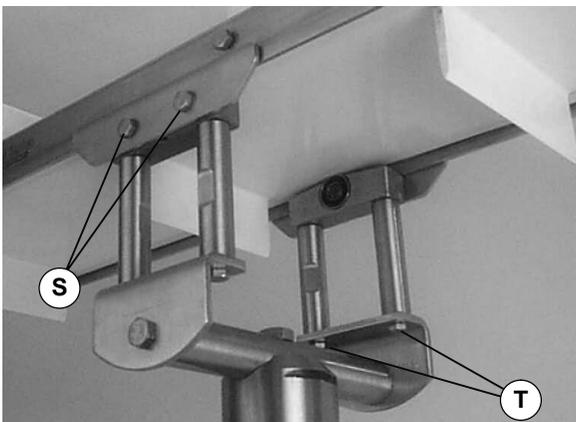

Figure 11
3. Attach clamp plates on each side of conveyor (Figure 11). Tighten the screws (S) to 92 in-lb (10.4 Nm).